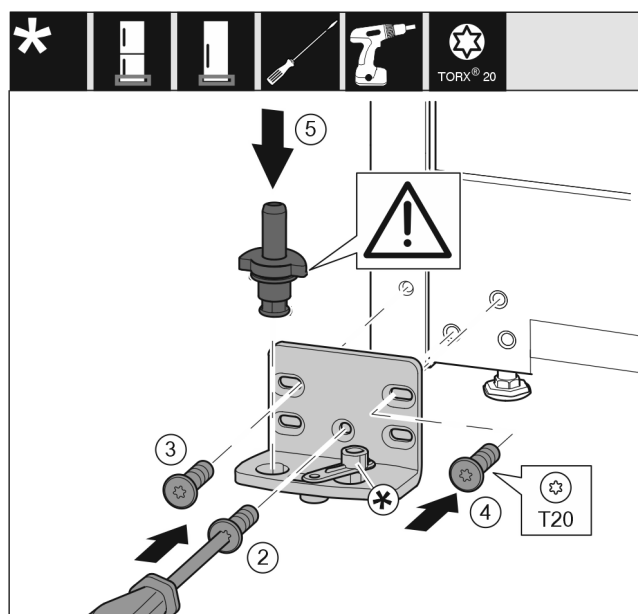

Fig. 16
- Attach the swap bearing block onto the other side and screw it on using a screwdriver. Start with the screw Fig. 16 (2) at the bottom center.
- Tighten screw Fig. 16 (3) and screw Fig. 16 (4).
- Insert the bearing pin Fig. 16 (5) completely. In the process, make sure that the latching cam shows towards the rear.